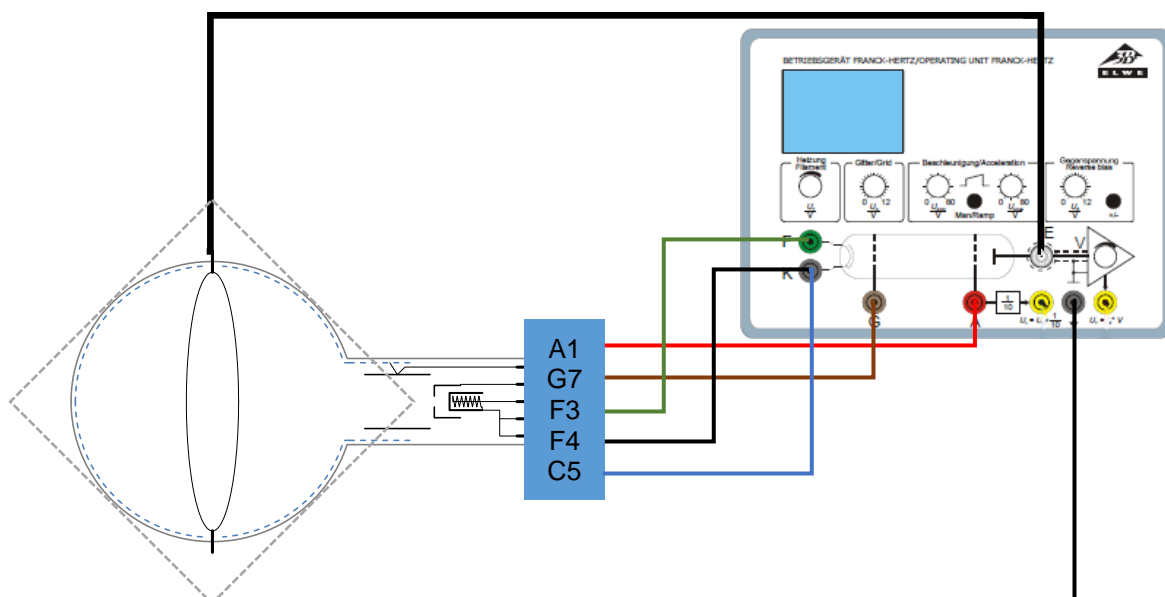
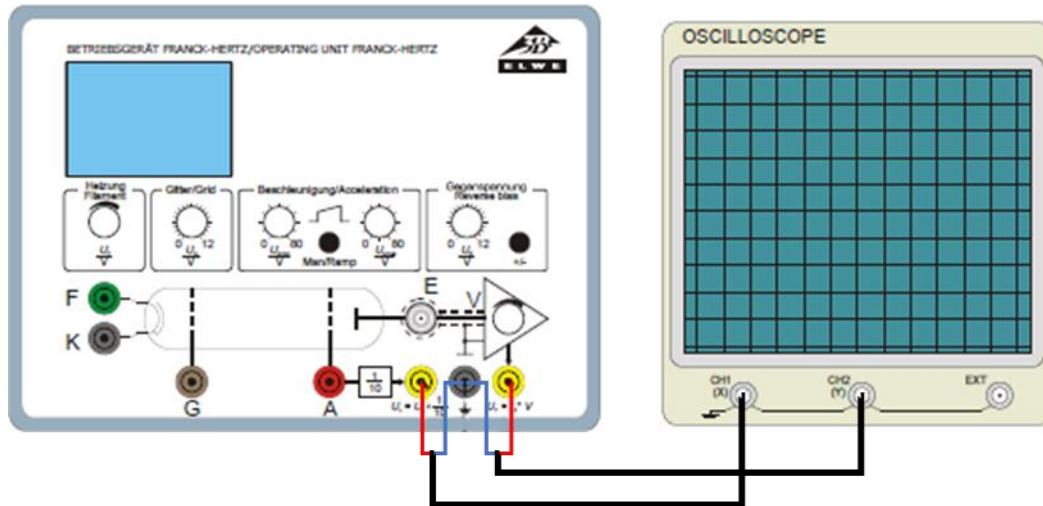

Fig. 2: Schematic layout of the experiment set-up by using the Franck-Hertz-power supply
Fig. 3: Electrical connection of an oscilloscope to the Franck-Hertz power supply
#### 7.2 Experiment set-up (Fig. 2, Fig. 3)
- Connect output  $U_X$  of the Franck-Hertz power supply to input CH 1 of the oscilloscope (deflection in X) and output  $U_Y$  to input CH 2 (deflection in Y) (see Fig. 3).